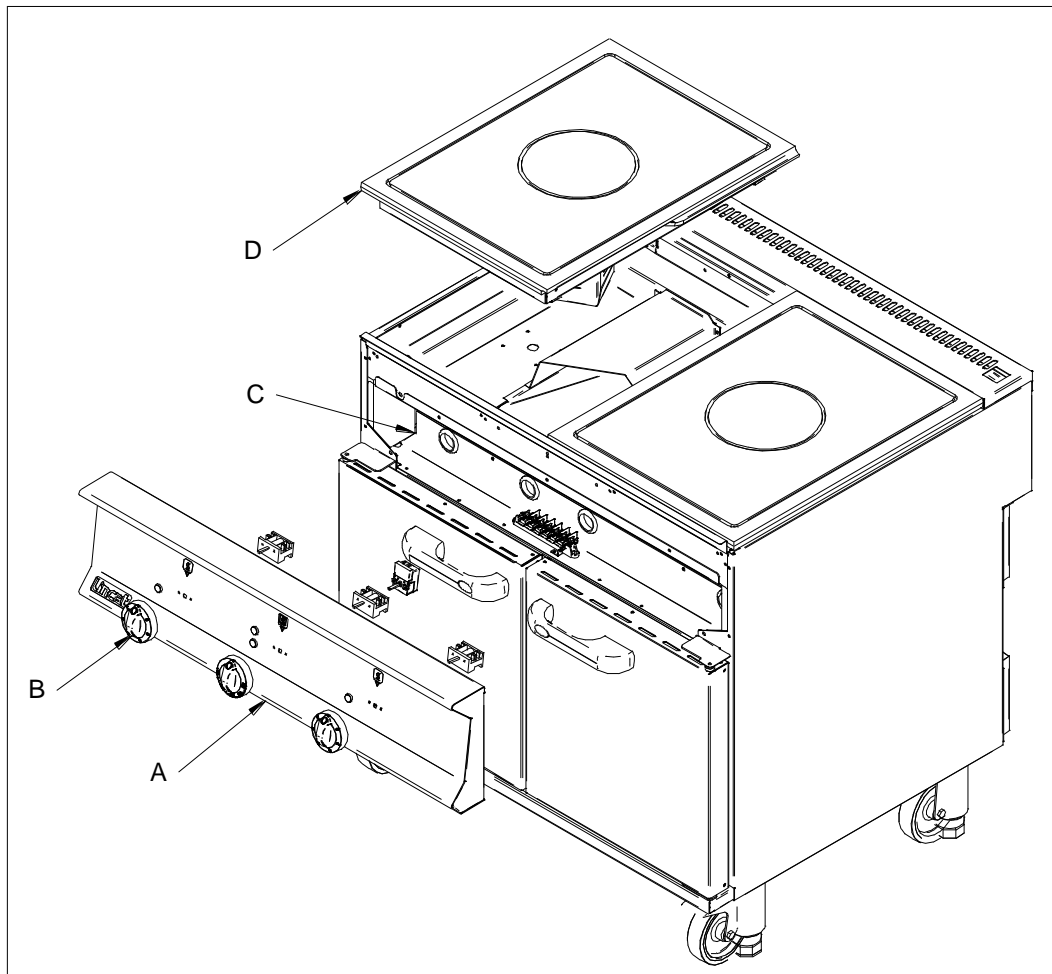

Fig 4
Replacement of some components requires removal of the fascia panel and heat shield (see Fig 4). Remove the control knobs (B) and all screws beneath the fascia (A). Be aware when lowering the fascia that electrical connections will still be made. When replacing heat shield and fascia ensure cables are not trapped.